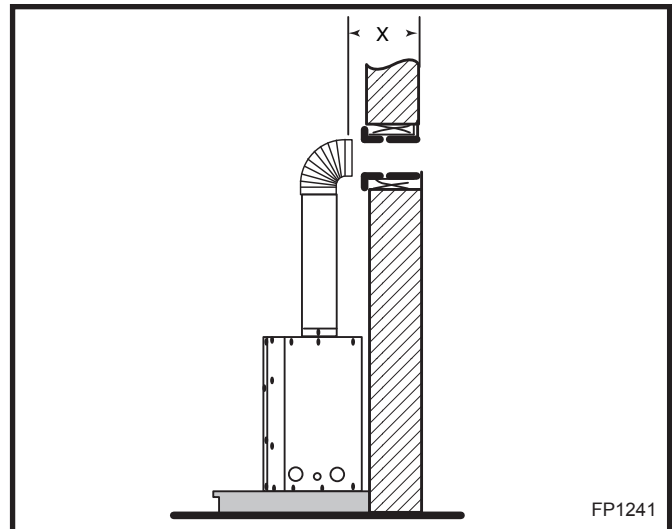

Fig. 50 Horizontal length requirement.
Attach appropriate venting component(s) to the fireplace with three (3) screws. (Fig. 50) Follow with the installation of the inner and outer elbow. Again secure joints with three (3) sheet metal screws.
Measure the horizontal length requirement including a 2" (51 mm) overlap, ie from the elbow to the outside wall face plus 2" (51 mm) (or the distance required if installing a second 90° elbow). (Fig. 50)